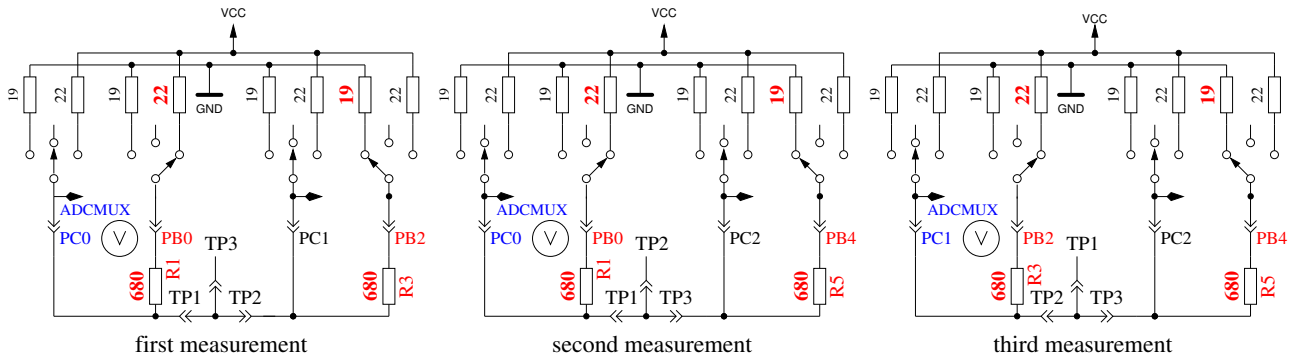

Figure 5.33: Comparison of 680Ω resistors
2. **Comparing of the 680Ω resistors.** In row 1 the cryptic text “+RL- 12 13 23” is shown. Meaning of this is as follows: The RL is the short form of Resistor Low meaning the 680Ω resistors. The 12 stand for: resistor at pin 1 is connected to VCC (+) and resistor at pin 2 is connected to GND (-). The result of this measurement is displayed in row 2 at the first place. In row 1 follows now a “13” which means, that the first connection of measurement 1 is still connected with 680Ω to VCC but that the resistor of pin 3 is connected to GND. The result is displayed in the middle place of row 2. The last measurement of this test “23.” means that now the resistor at pin 2 is connected to VCC (+) and the resistor of pin 3 is connected to GND. The result of measurement is displayed at the last place of LCR row 2. Please remember, that the resolution of the ADC is about 4.88mV! The measurement situation is also shown in figure 5.33. All these combinations with respect to the internal resistance of the pins should result to: